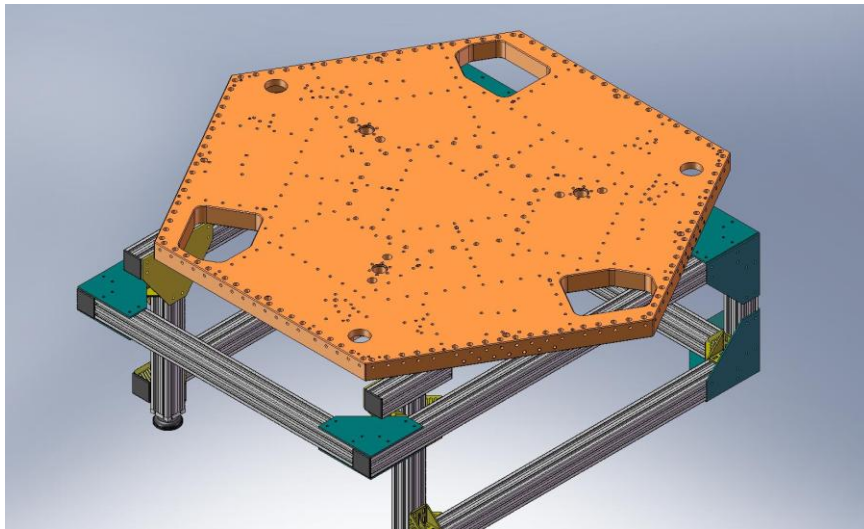
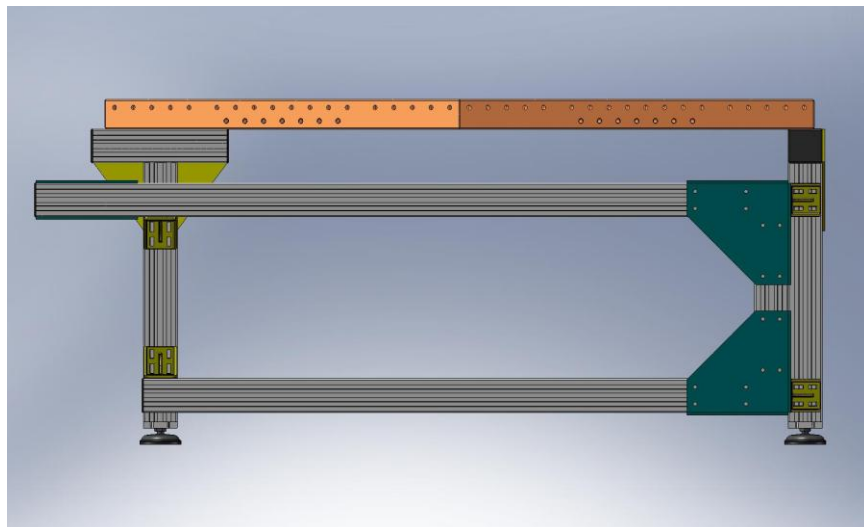

Figure 2.1. Stage 1 Floor resting on the Assembly Stand, for initial stage build-up. This orientation allows good access to the Boxwork mounting screws.
Figure 2.2. Side view of Stage 1 Floor on Assembly Stand.
- (12) 1/4”-20x2.0”Dia. – *for Vertical Position Sensor mounts*
- (16) 3/8”-16x2.0”Dia. – *for Locker Base*
- Pick up the **Stage 1 Floor**, using lifting eyes threaded into the newly installed Heli-Coils, and place it onto **Assembly Stand**. Orientation should be as shown in Figure 2.1 and Figure 2.2.